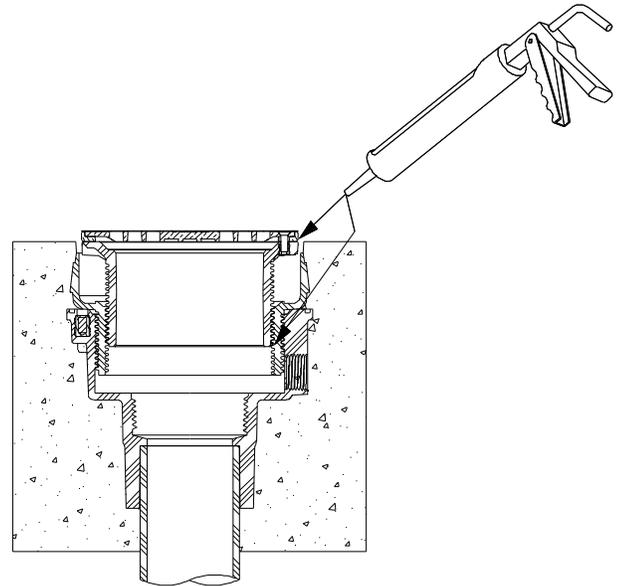

Fig. 9R
- 9a. Place a bead of silicone around the circumference of the last thread of the head assembly. See Fig. 9R
- 9b. Thread head assembly down until bottom of the frame is flush with the top of the concrete. See Fig. 9R
- 9c. Place a bead of silicone around the perimeter of the strainer frame. See Fig. 9R